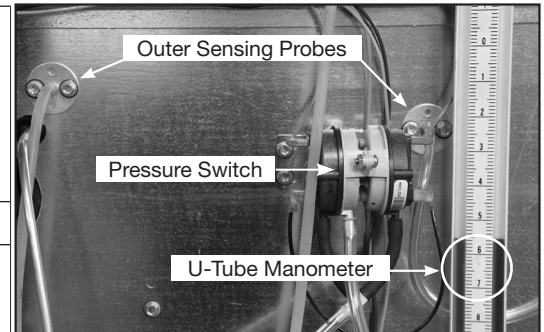

Fig. 1 Measuring the Pressure Drop
3. Check burner pressure differential. (**Fig. 1**)